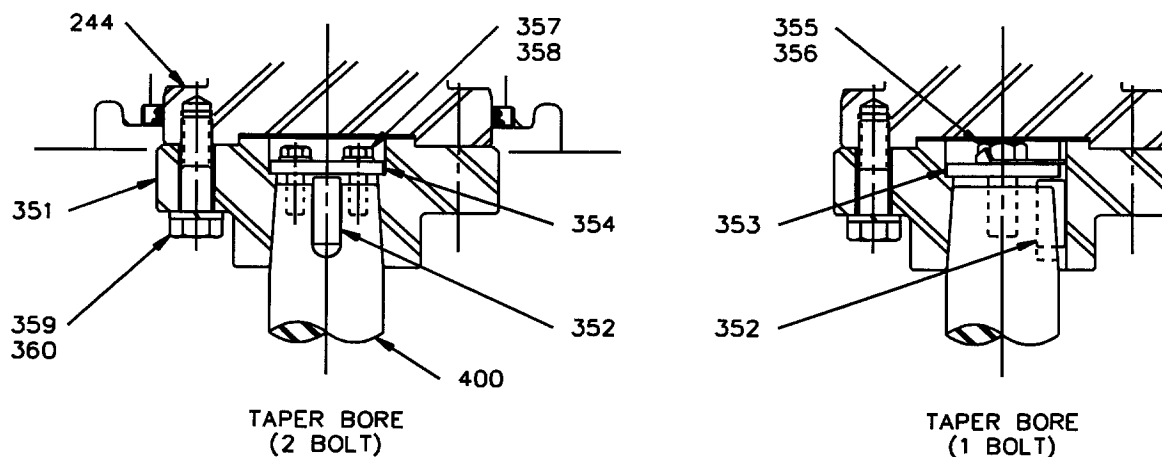

Figure 5: Shaft Coupling Installation
8. Clean the extension shaft [400] and coupling half [351] bore and make sure that both surfaces are free from burrs or nicks. Place key [352] (*Figure 5, page 12*) in the coupling keyway to make sure it slides freely. Install the key in the shaft keyway making sure it is properly oriented and fully bottomed in the keyway.
10. Install Shaft Bolts: (*See Figure 5*)